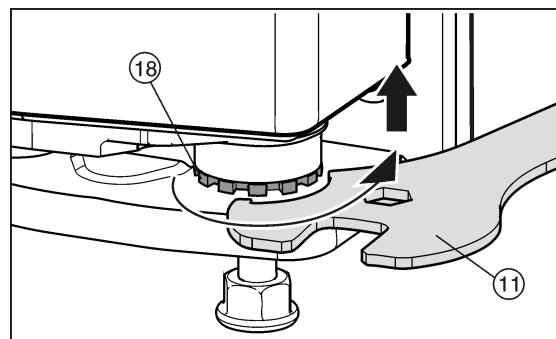

Fig. 31
- ▶ To lift the door unscrew the bearing pin Fig. 31 (18) clockwise using the supplied open-end wrench Fig. 31 (11). The appliance is delivered from the factory with the bearing pin screwed in completely.